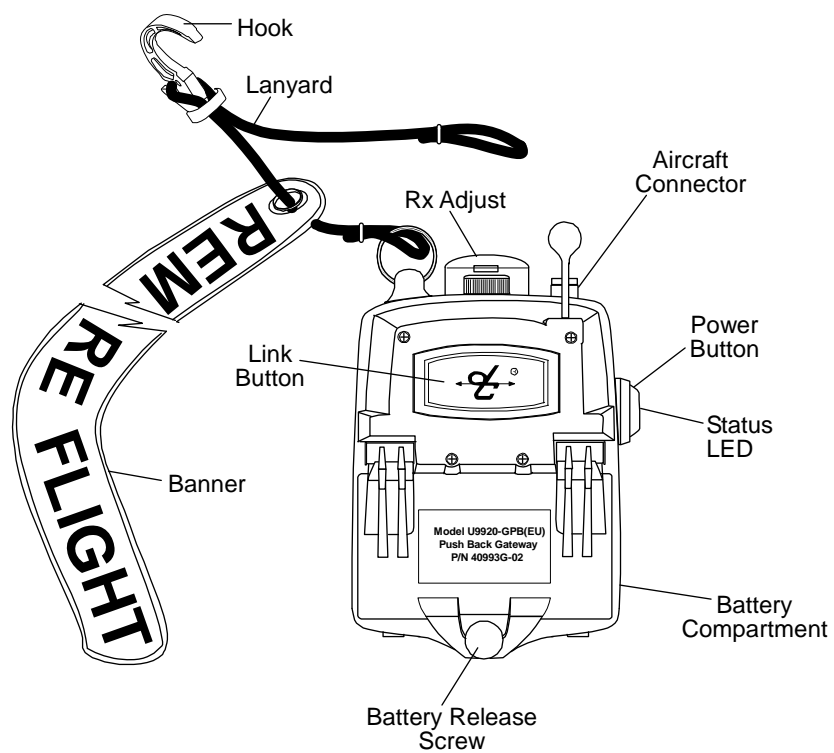
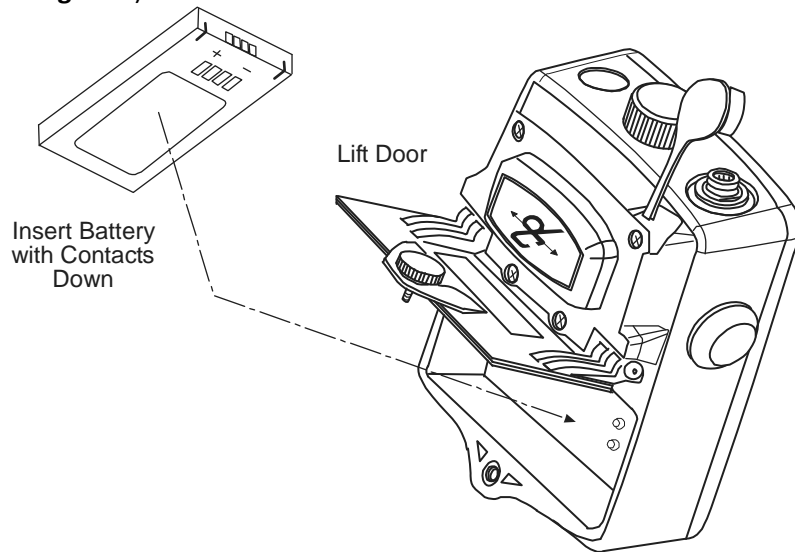

Figure 1: Overview of Gateway
Figure 3: Battery Insertion/Removal
The included lanyard, hook, and *Remove Before Flight* banner (see **Figure 1**) facilitate the temporary mounting of the U9920-GPB(EU) to an aircraft. The hook position on the lanyard is adjustable to accommodate a variety of different mounting techniques. In addition, the belt clip can be used to clip the gateway to an access door. Care and judgment should be exercised when clipping or hooking to any part of the aircraft so that damage does not occur to the aircraft or the gateway.
Audio levels can vary between aircraft. To compensate for this, the U9920-GPB(EU) has a receive level adjust knob (see **Figure 1**). Turning this knob will increase or decrease the audio level coming from the aircraft and into the wireless intercom. By adjusting this knob, optimum performance can be achieved.
All David Clark 9900-series wireless belt stations and battery operated controllers/gateways use a 3.7V Li-Polymer rechargeable battery. This battery is removed by loosening the battery release screw (See **Figure 1**). The batteries are charged with the A99-04CRG 4-bay battery charger (41034G-01). When installing a battery, take care to align the battery properly and fully tighten the screw (see **Figure 3**).